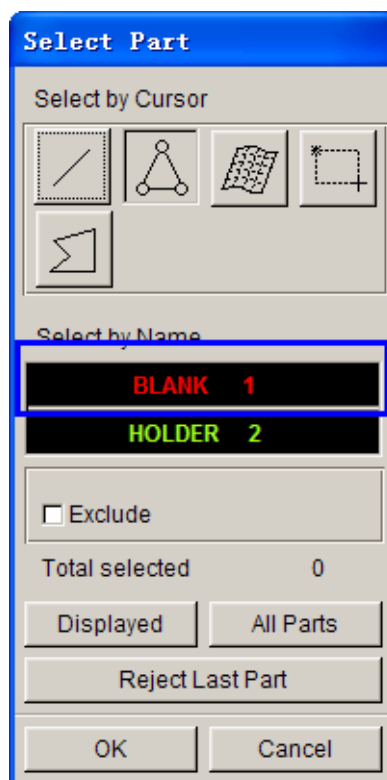

Figure 3.13: Select Part dialog box
- 2) In the pop-up Select Part dialogue window, select the “BLANK” as the part corresponding to the sheet-metal tool, as shown in following figure 3.13.